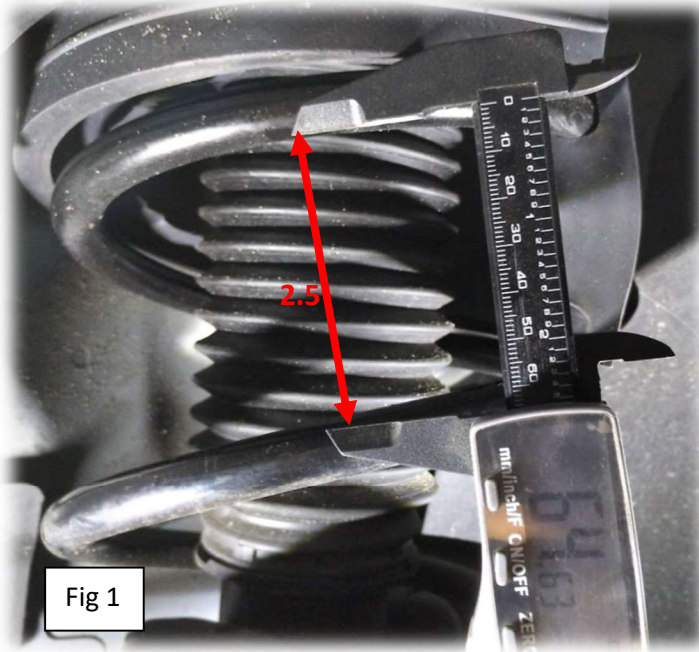

Fig 1
1. Lift & Jack up your vehicle (make sure tires are not touching ground) – Fig 1
2. Measure your Coil Spring Gap (ex. 64.7mm / 2.5") – Fig 1